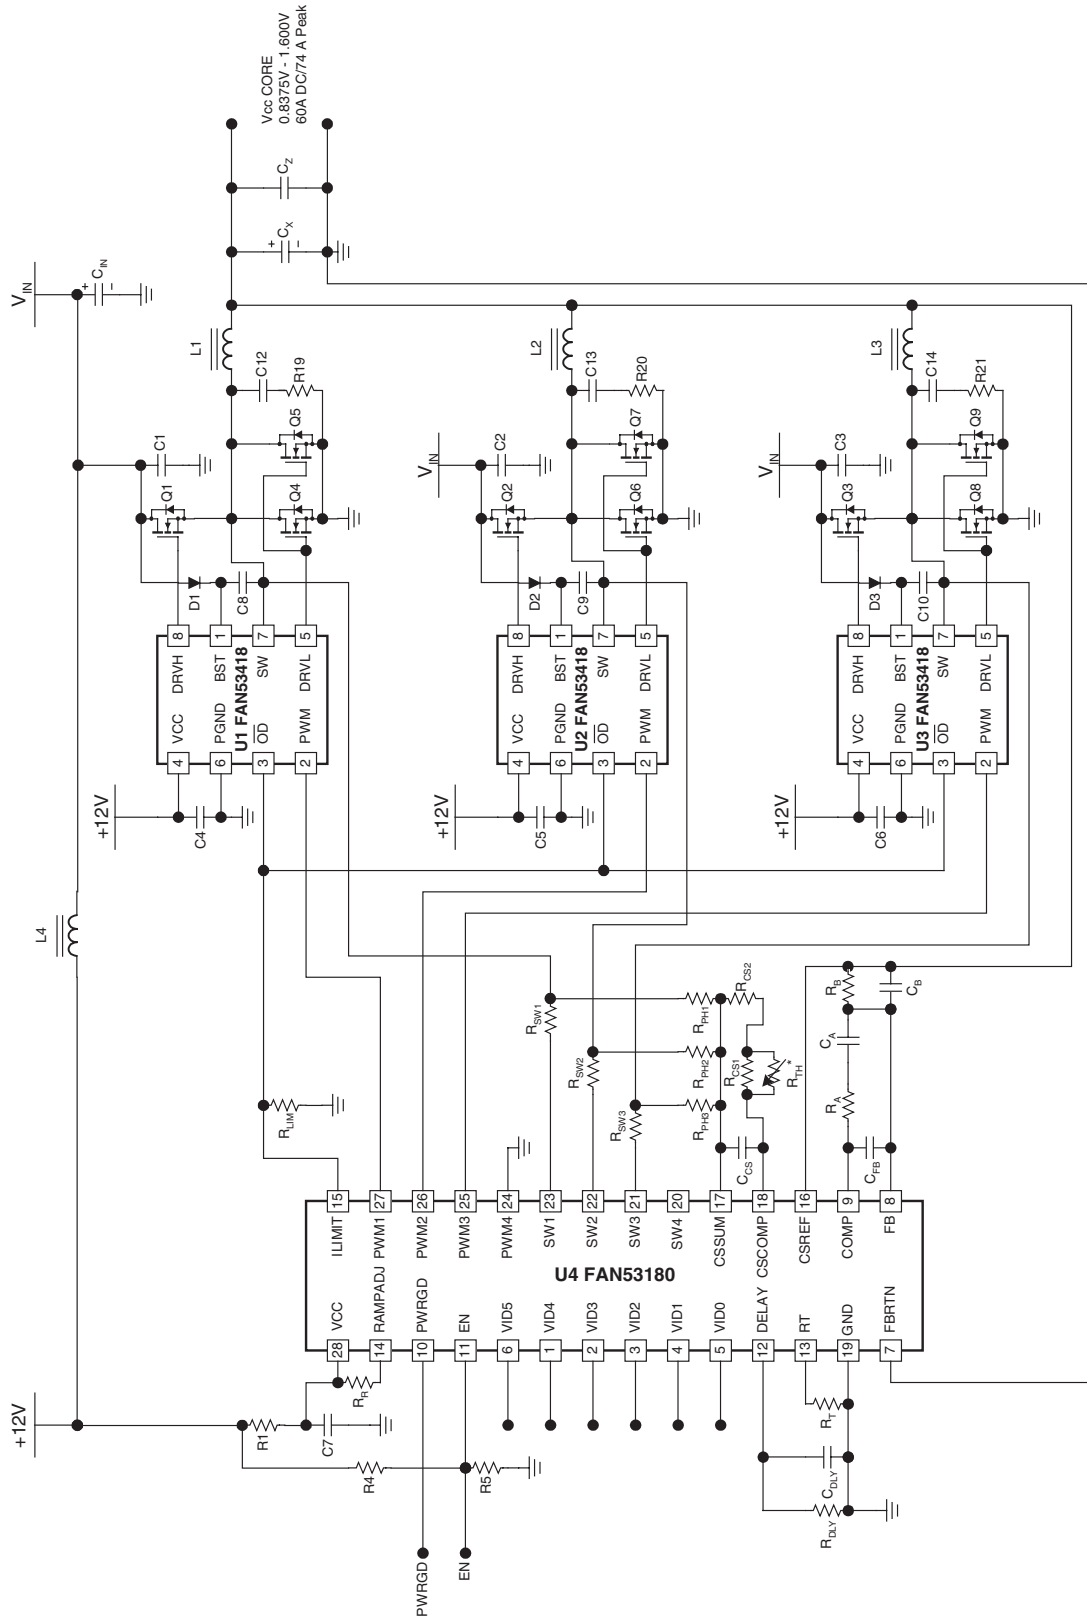

Figure 1. Typical Application – 3-phase, 65A (DC), 74A (Peak) VRD/VRM10 Design
**Table 1. FAN53168 VRM/VRD10 Application Bill of Materials for Figure 1**